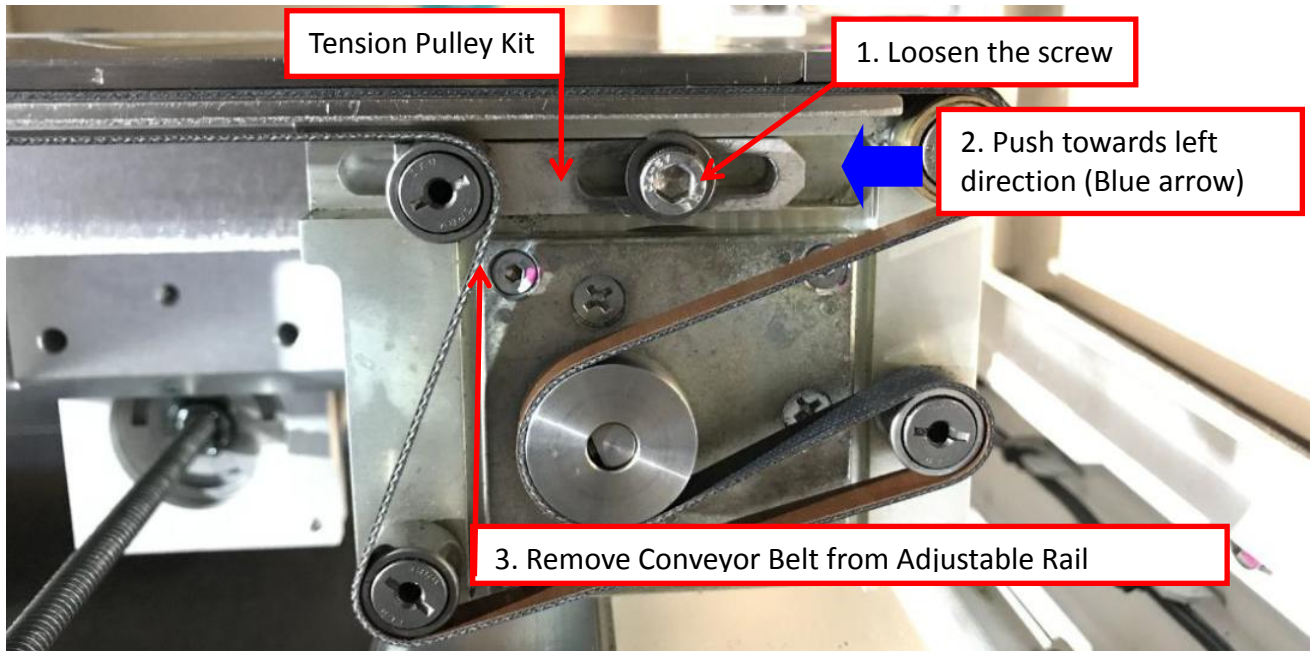

Figure 23 Adjustable Rail Conveyor Belt Removal
2. Loosen 1 x Screw at Tension Pulley Kit as shown in Figure 23.
Push the Tension Pulley Kit towards left direction (Blue arrow in Figure 23)